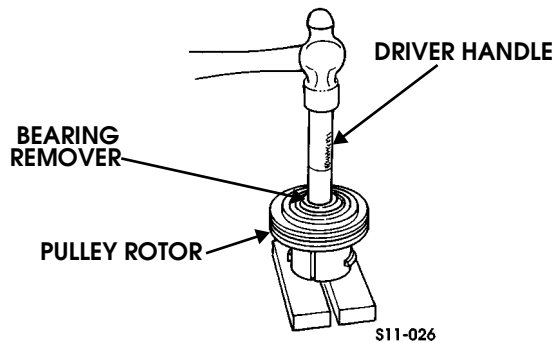

Figure 11-55: Bearing Remover
5. To prevent damage to the pulley during bearing removal, the rotor hub must be properly supported. Remove the forcing screw from puller, and with the puller tangs still engaged in the rotor slots, invert the assembly onto a solid flat surface or blocks (Figure 11-55).
1. Place the pulley rotor on support block to fully support the rotor hub during bearing installation (Figure 11-55).